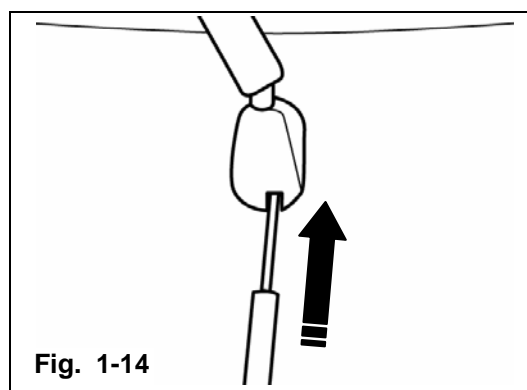

Fig. 1-14
- j) Insert 4mm screwdriver into notch at bottom of mirror mount and slide upward between windshield mounting button and mirror mount. **(Fig. 1-14)**